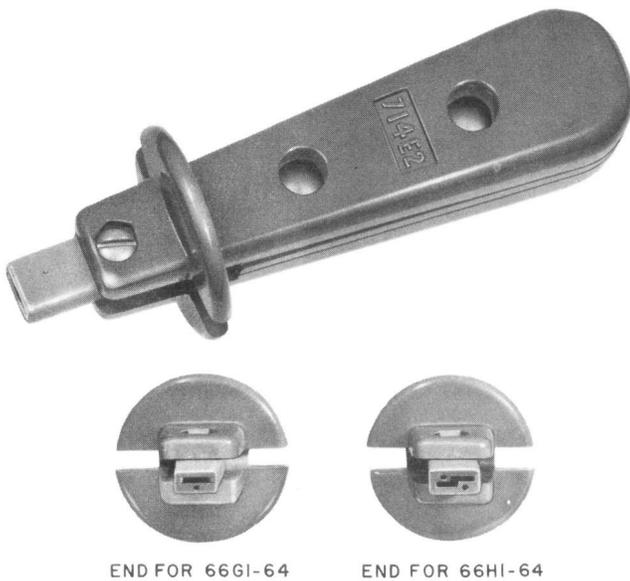

Fig. 3—714E2 Tool
**2.05** The 714E tool is replaced by the 714E2 tool which is an improved version. Each tool consists of a double-ended wire insertion head held in a plastic handle (Fig. 3). One end of the insertion head is designed for installing a conductor into the single clip of the 66G-type connecting block. The other end is for use on the twin clip of the 66H-type connecting block. The insertion head can be rotated to either position by loosening the screw, rotating the head 180 degrees, and retightening the screw. The improved 714E2 tool has holes in the blade for holding the wire across the opening in the tool face while making connection to the split terminals on the connecting blocks. The 714E2 tool provides the following advantages: